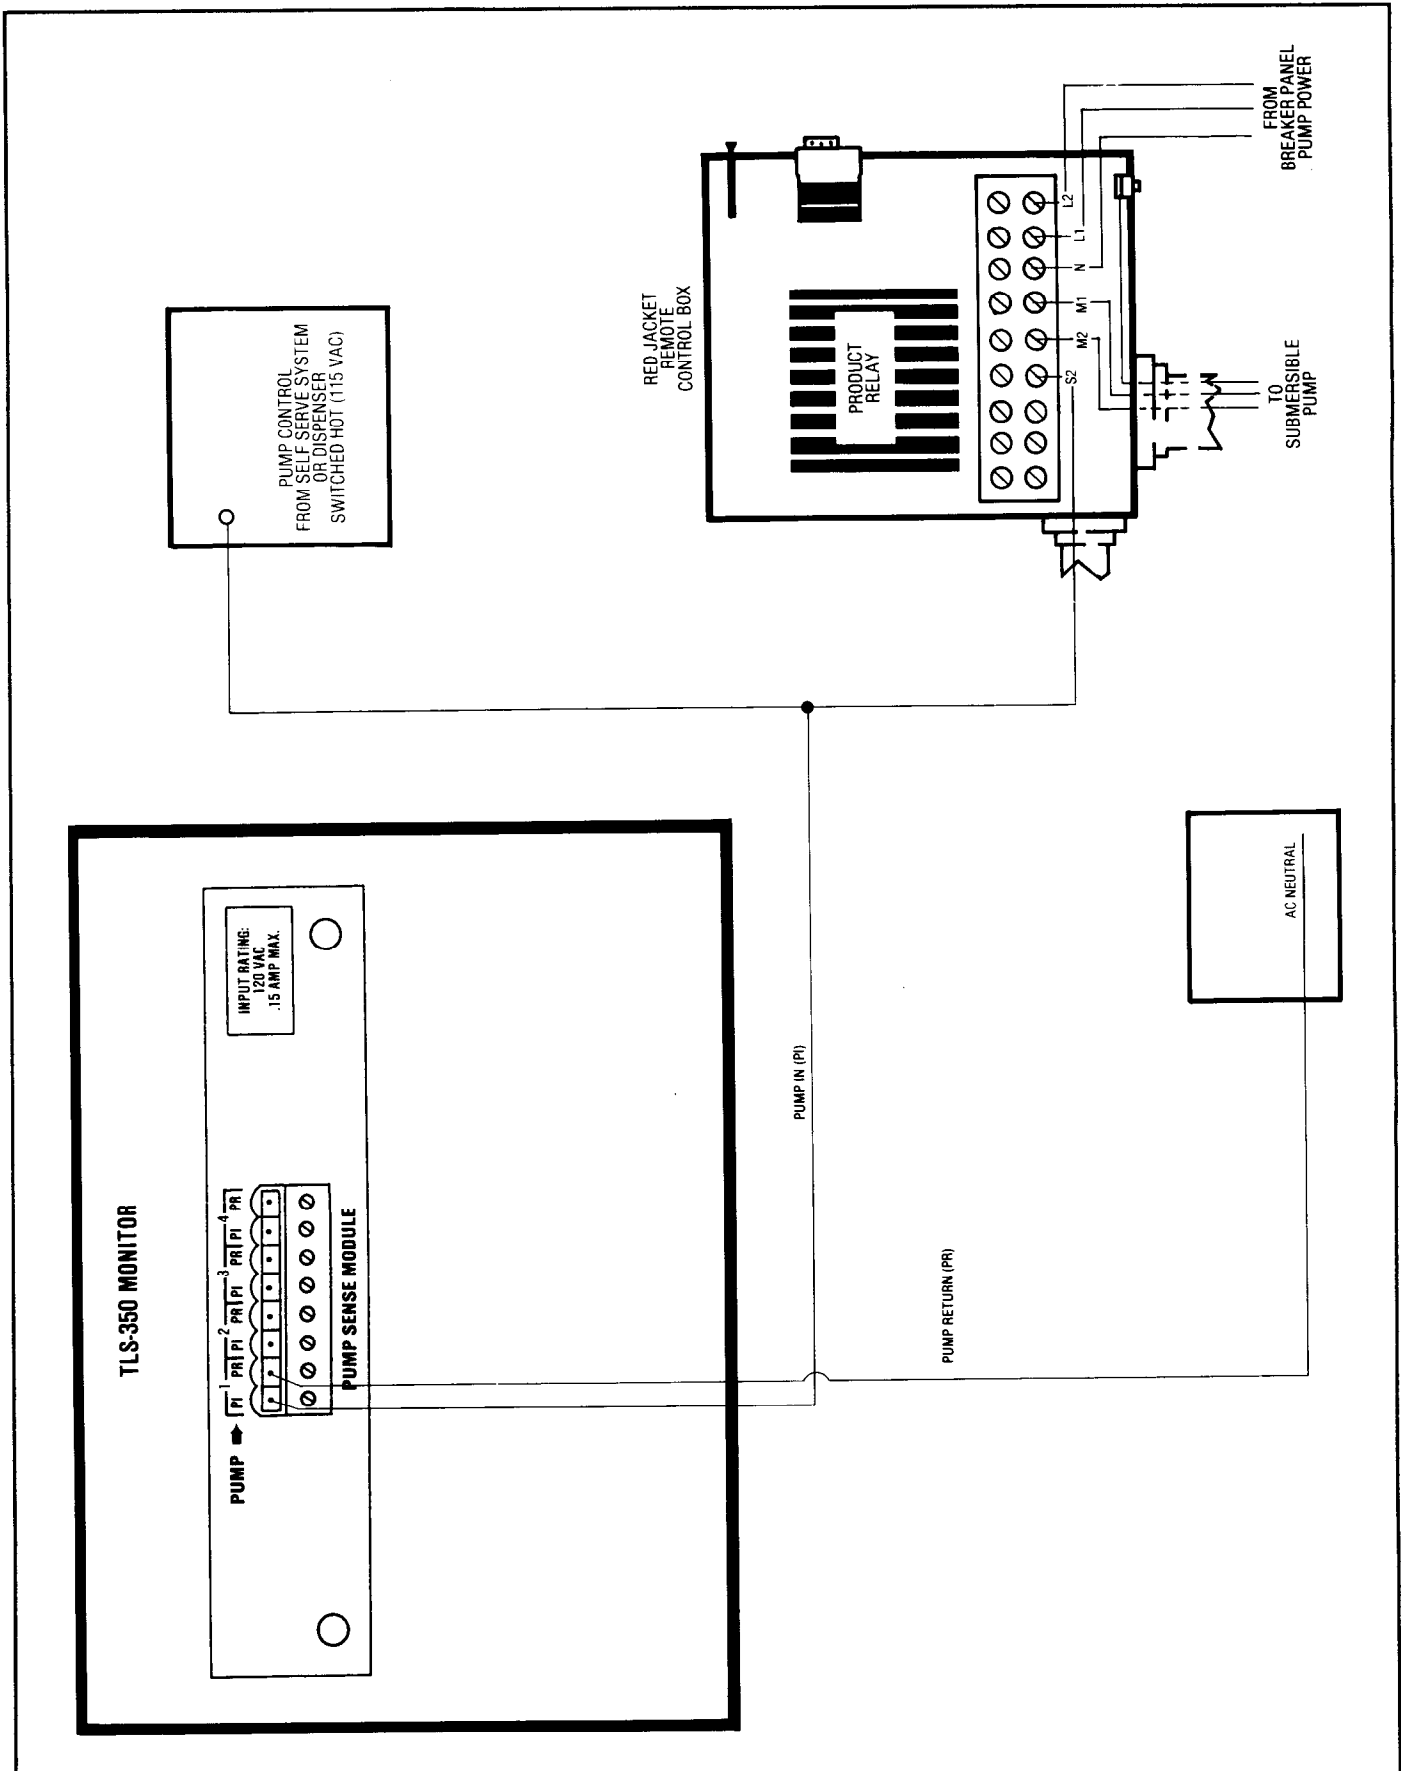
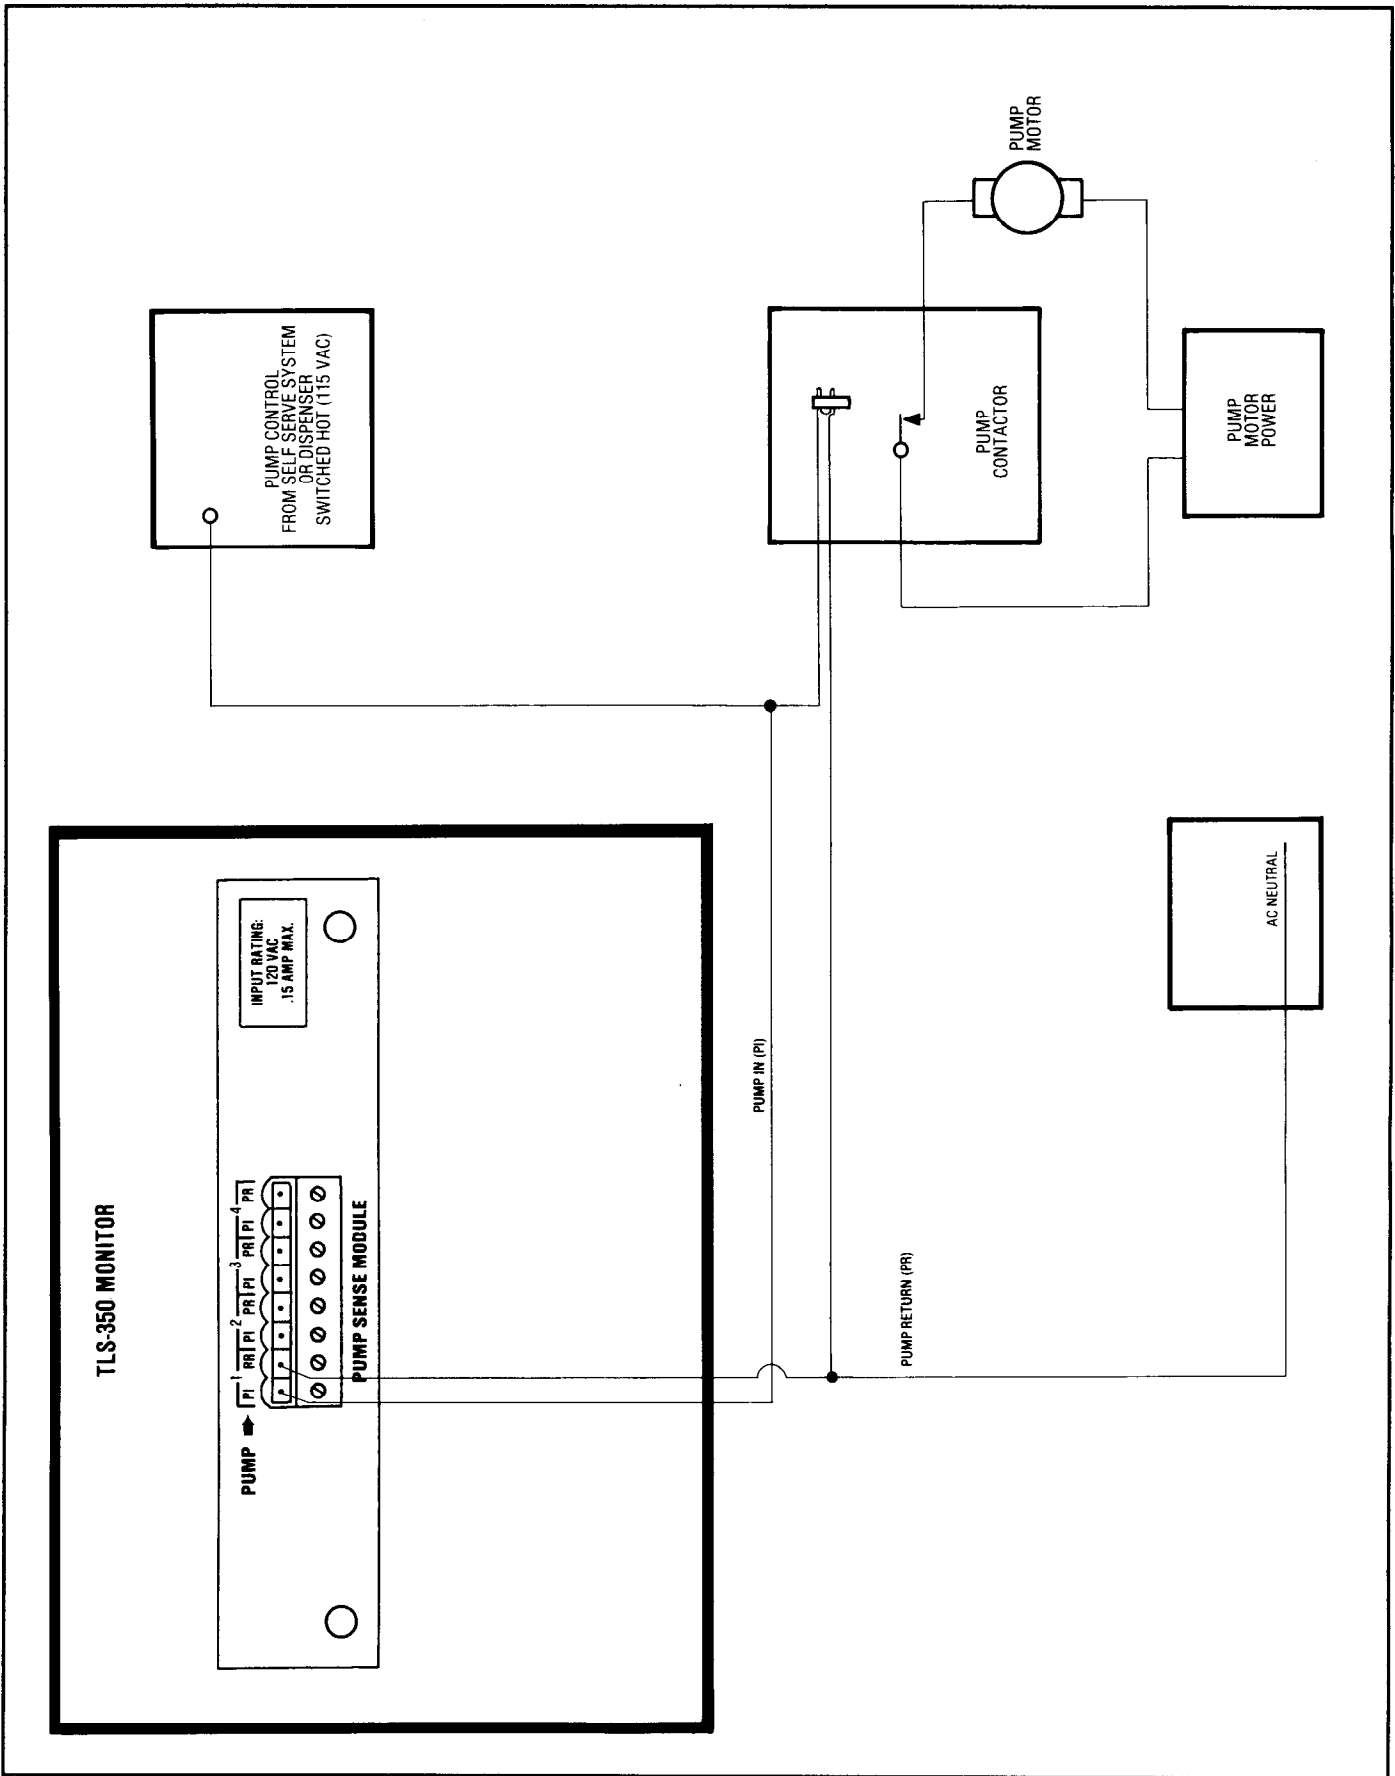

Figure 1. Pump Sense and Pump Control Wiring Diagram for Red Jacket Relay Control Box
Figure 2. Pump Sense and Pump Control Wiring Diagram for Non-Red Jacket Relay Control Box
4. Connect the two (2) color-coded or marked wires from the pump controls to the proper terminals on the Pump Sense Interface Module connector (see Figure 1, "Pump Sense and Pump Control Wiring Diagram for Red Jacket Relay Control Box," and Figure 2, "Pump Sense and Pump Control Wiring Diagram for Non-Red Jacket Relay Control Box").